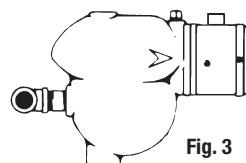

Fig. 3
3. Insert long nipple into lower gauge glass tapping in boiler. Swing the entire float chamber until the nipple is made up tight. The cut-off must be level. Fig. 3.